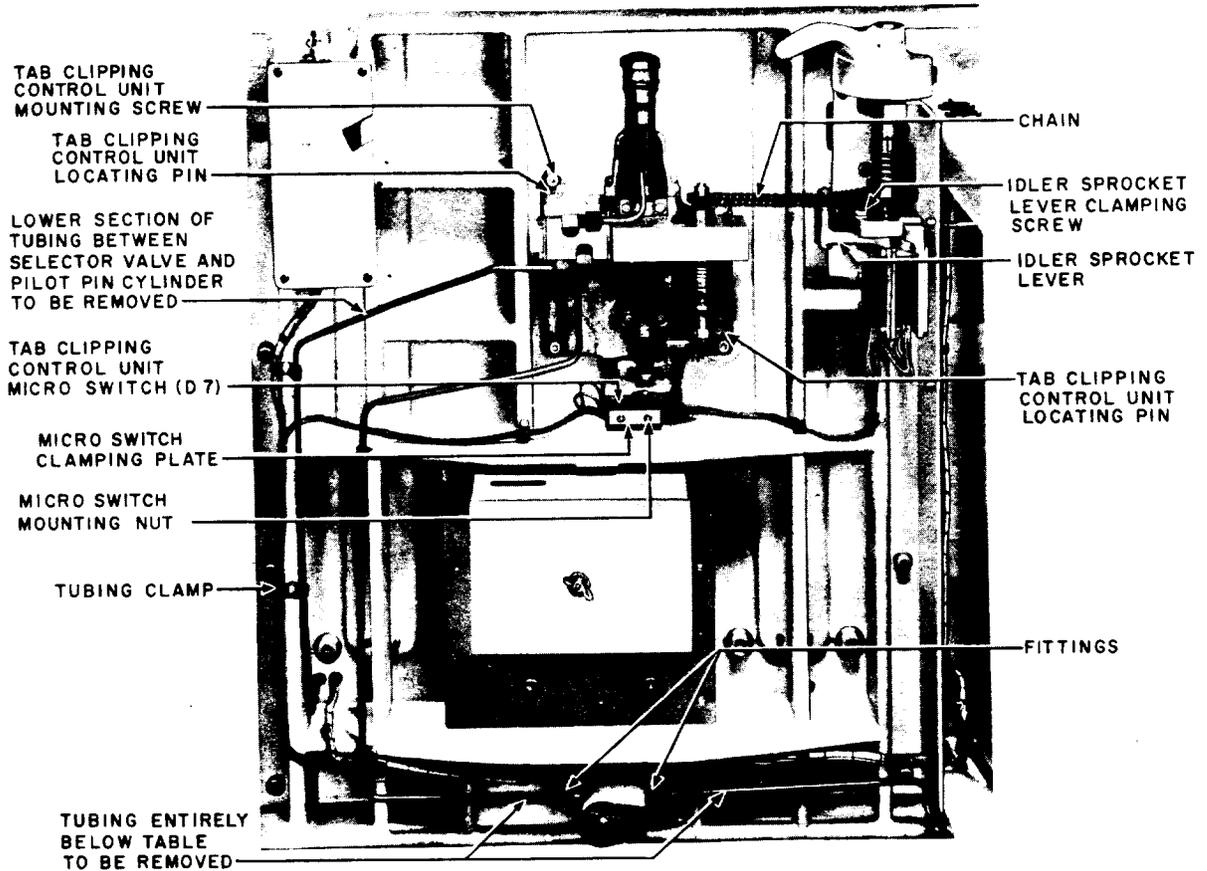

Fig. 4 – 659A and 659D Tools — Underside of Tool (cover removed)
## 6. CONVERTING THE TAB-CLIPPING CONTROL UNIT — Fig. 4 and 7
**6.01** Remove the tab-clipping control unit Micro Switch mounting nuts and clamping plate (Fig. 4) using the 418A wrench. Remove the Micro Switch and cover and allow the Micro Switch to hang by its leads.